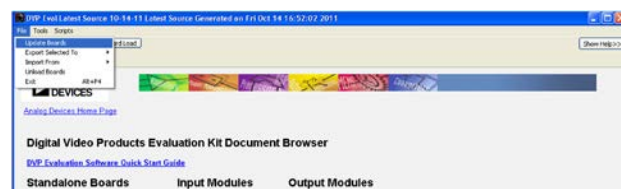

Figure 5. Update Board Files on the DVP Eval Software
5. Select **File > Update Boards** to combine the ADV7281A-M script files with the DVP Eval Software (see Figure 5).